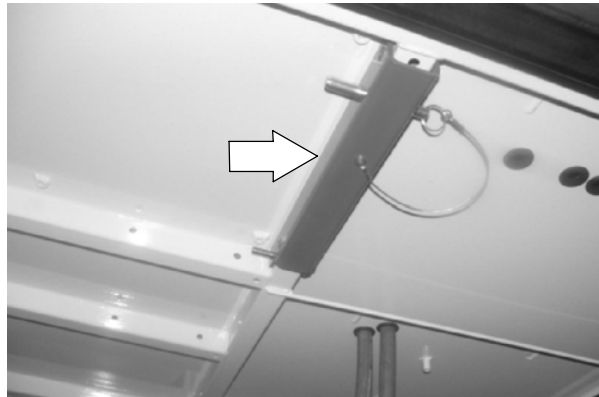

FIG. 21
34. The cab prop arm is located on the passenger side bottom of the cab. Engage the prop arm when the cab is in the forward tilted position. Refer to Fig. 21.